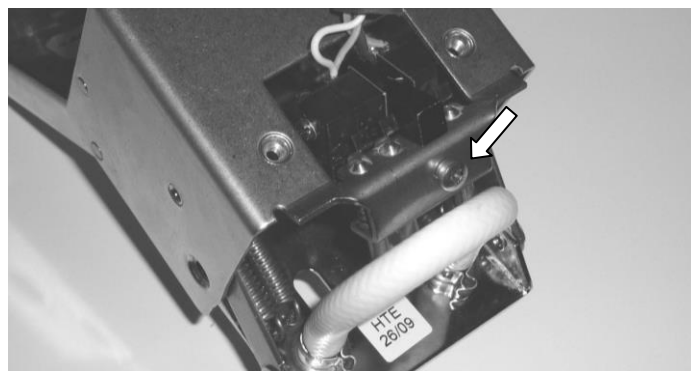

Figure 11 – Shunt Switch Assembly Screw Location
- 4.14 The shunt switch assembly is held in place with one screw as illustrated by the arrow in Figure 11. With the shunt door still open, remove the screw securing the shunt switch assembly in place. Retain this screw and lock washer.